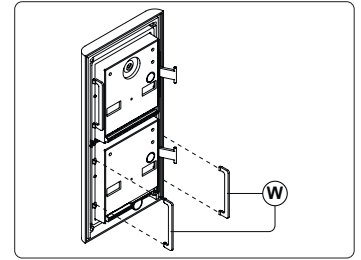

Fig. 9
Fit the anti-tampering locks (W) as shown in **Fig. 9**.